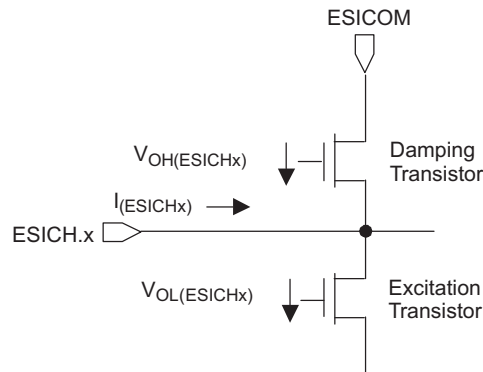

Figure 5-22. Voltage Drop Due to On-Resistance
(1) ESICOM = 1.5V , supplied externally (see Figure 5-22)